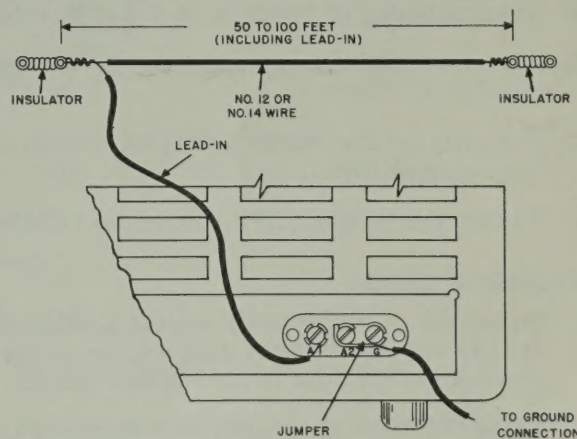

Fig. 3. Single Wire Antenna Installation
1. Construct the antenna as shown in Fig. 3 and connect it to A1.